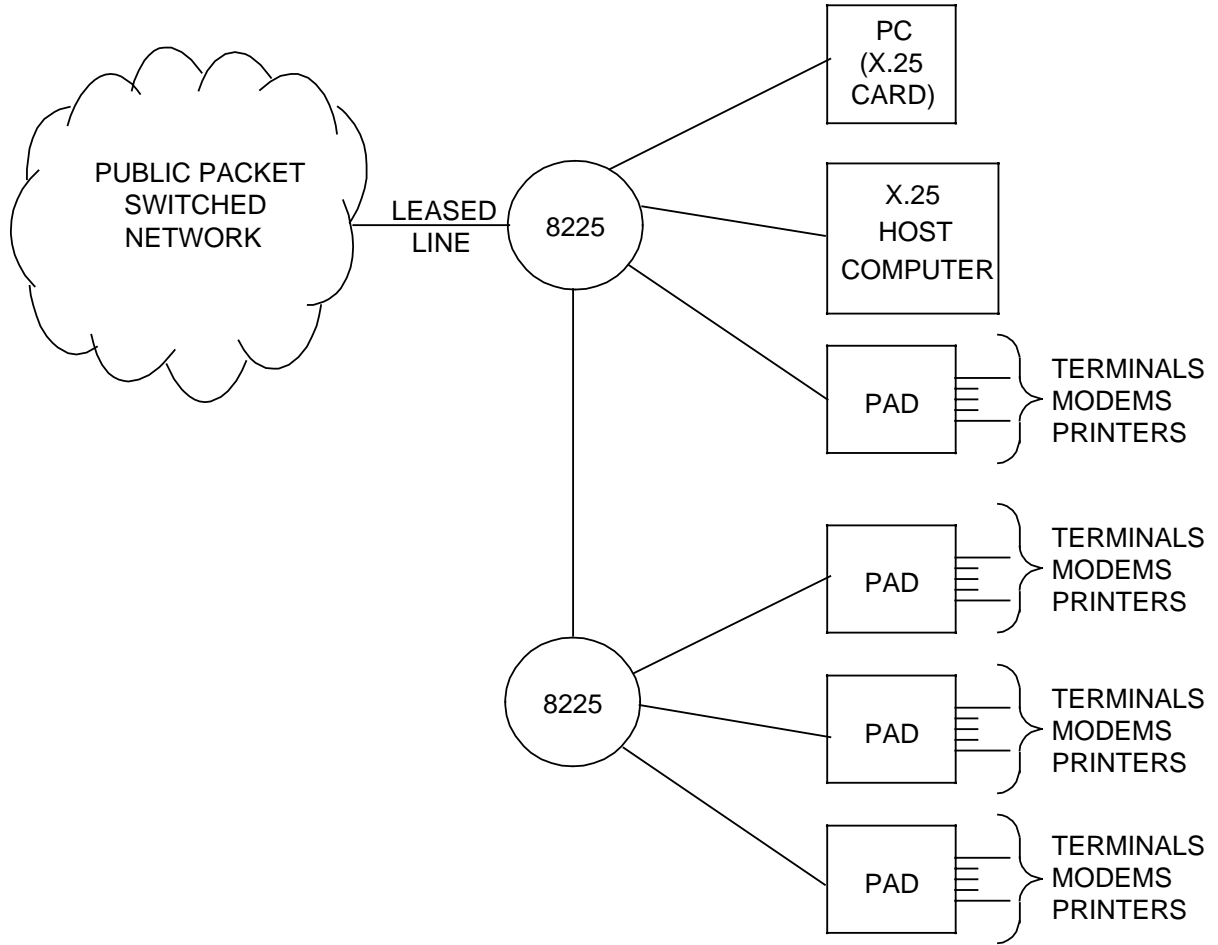

Figure 1-2 Example Local Switching and Concentrator Access into Larger Network
- To link X.25 devices (PADs etc) together providing both local switching and concentration access (saving online rental costs) into larger networks (see Figure 1-2).